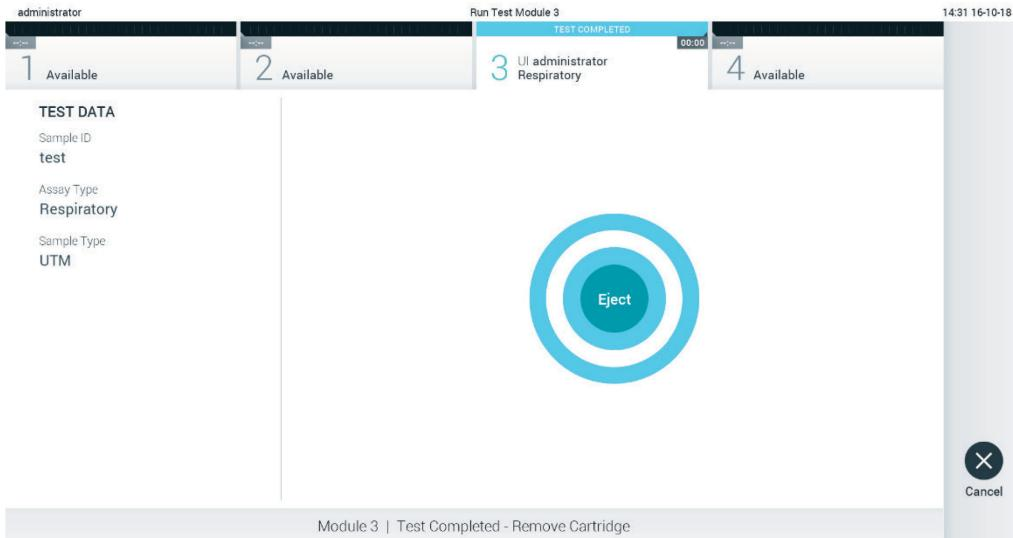

Figure 29. Eject screen display.
10. After the test run is completed, the **Eject** screen will appear (Figure 29, next page).